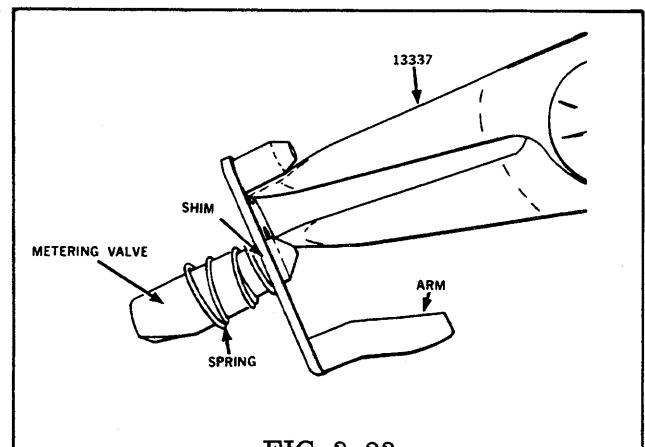

FIG. 3.23
STEP 23 Remove the metering valve from the arm assembly with retaining ring pliers (No. 13337) (Fig. 3.23).